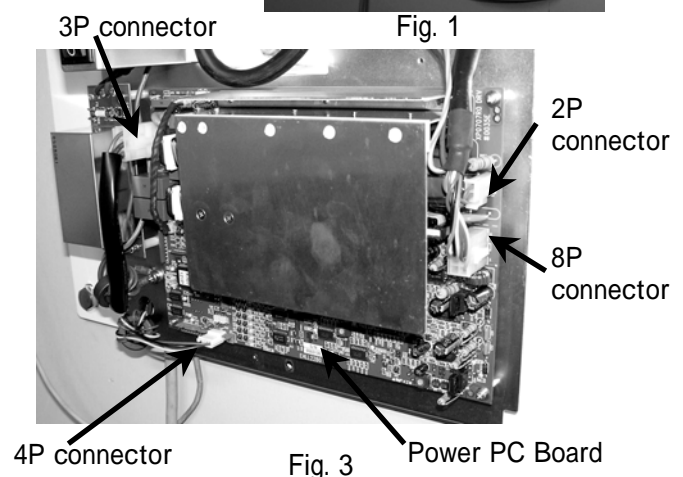

Fig. 3
3. Disconnect the four connectors (2P, 3P, 4P and 8P) from the power PC board. (Fig. 3)